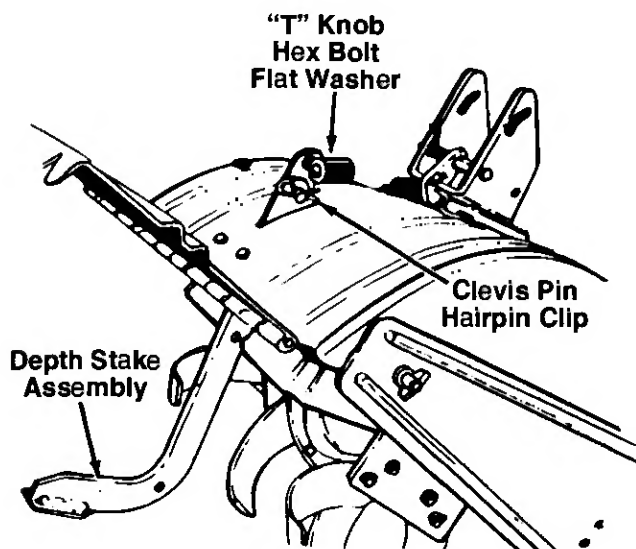

FIGURE 1.
1. Tip the tiller forward so it rests on front counterweight. See figure 1.
3. Raise the tine shield hinge flap assembly. Insert the depth stake assembly between the two shoulder bolts (under the tine shield) and up through the tine shield assembly as shown in figure 1.
5. Insert hex bolt into the top hole of the depth stake assembly. Place flat washer onto the hex bolt and thread "T" knob onto the hex bolt. See figure 1. Tighten securely.